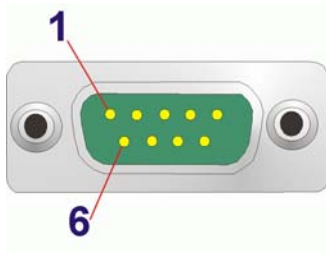

Figure 4-8: Serial Port Pinouts
- CN Pinouts:** See Table 4-7 and Figure 4-8